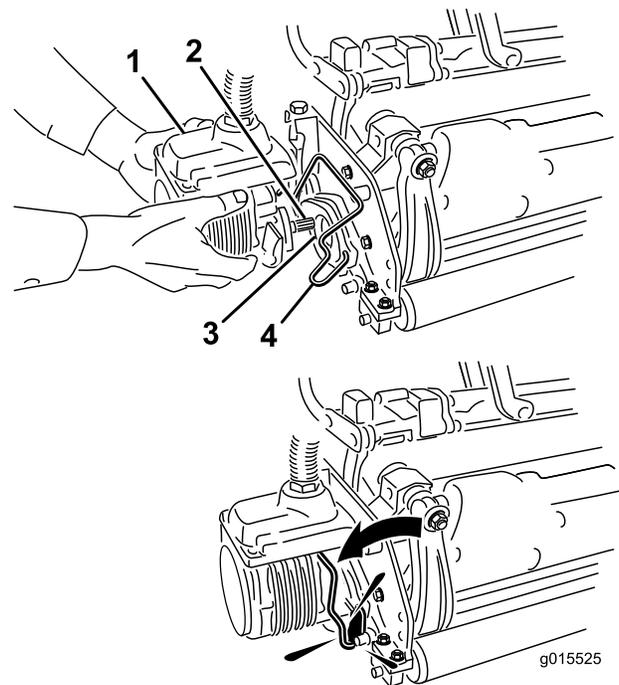

Figure 15
11. Coat the spline shaft of the cutting unit with clean grease (Figure 15).
12. Insert the motor into the left side of the cutting unit (as viewed from the operator's position) and pull the motor retaining bar on the cutting unit toward the motor until you hear an audible “click” from both sides of the motor (Figure 15).